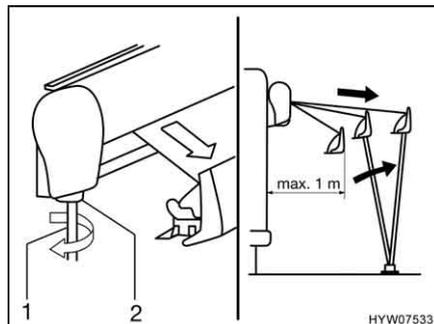

Fig. 8 Extend awning
- Insert the crank (Fig. 8,1) in the bayonet socket (Fig. 8,2) of the awning and turn in an anticlockwise direction. The awning begins to extend after a few rotations.